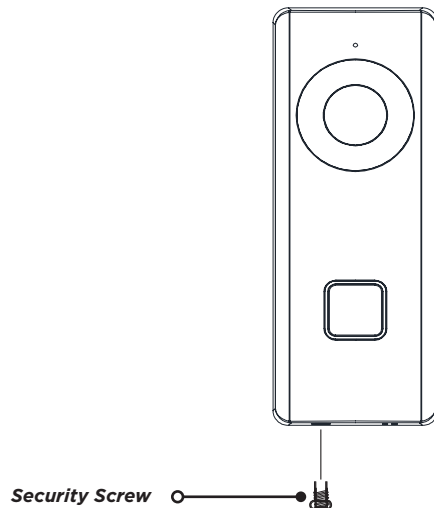

Figure 5: Attaching the Faceplate
1. After the doorbell has been connected to the Wi-Fi network, attach the faceplate to the doorbell body. Use the included short security screw to fix the faceplate to the doorbell. See Figure 5.